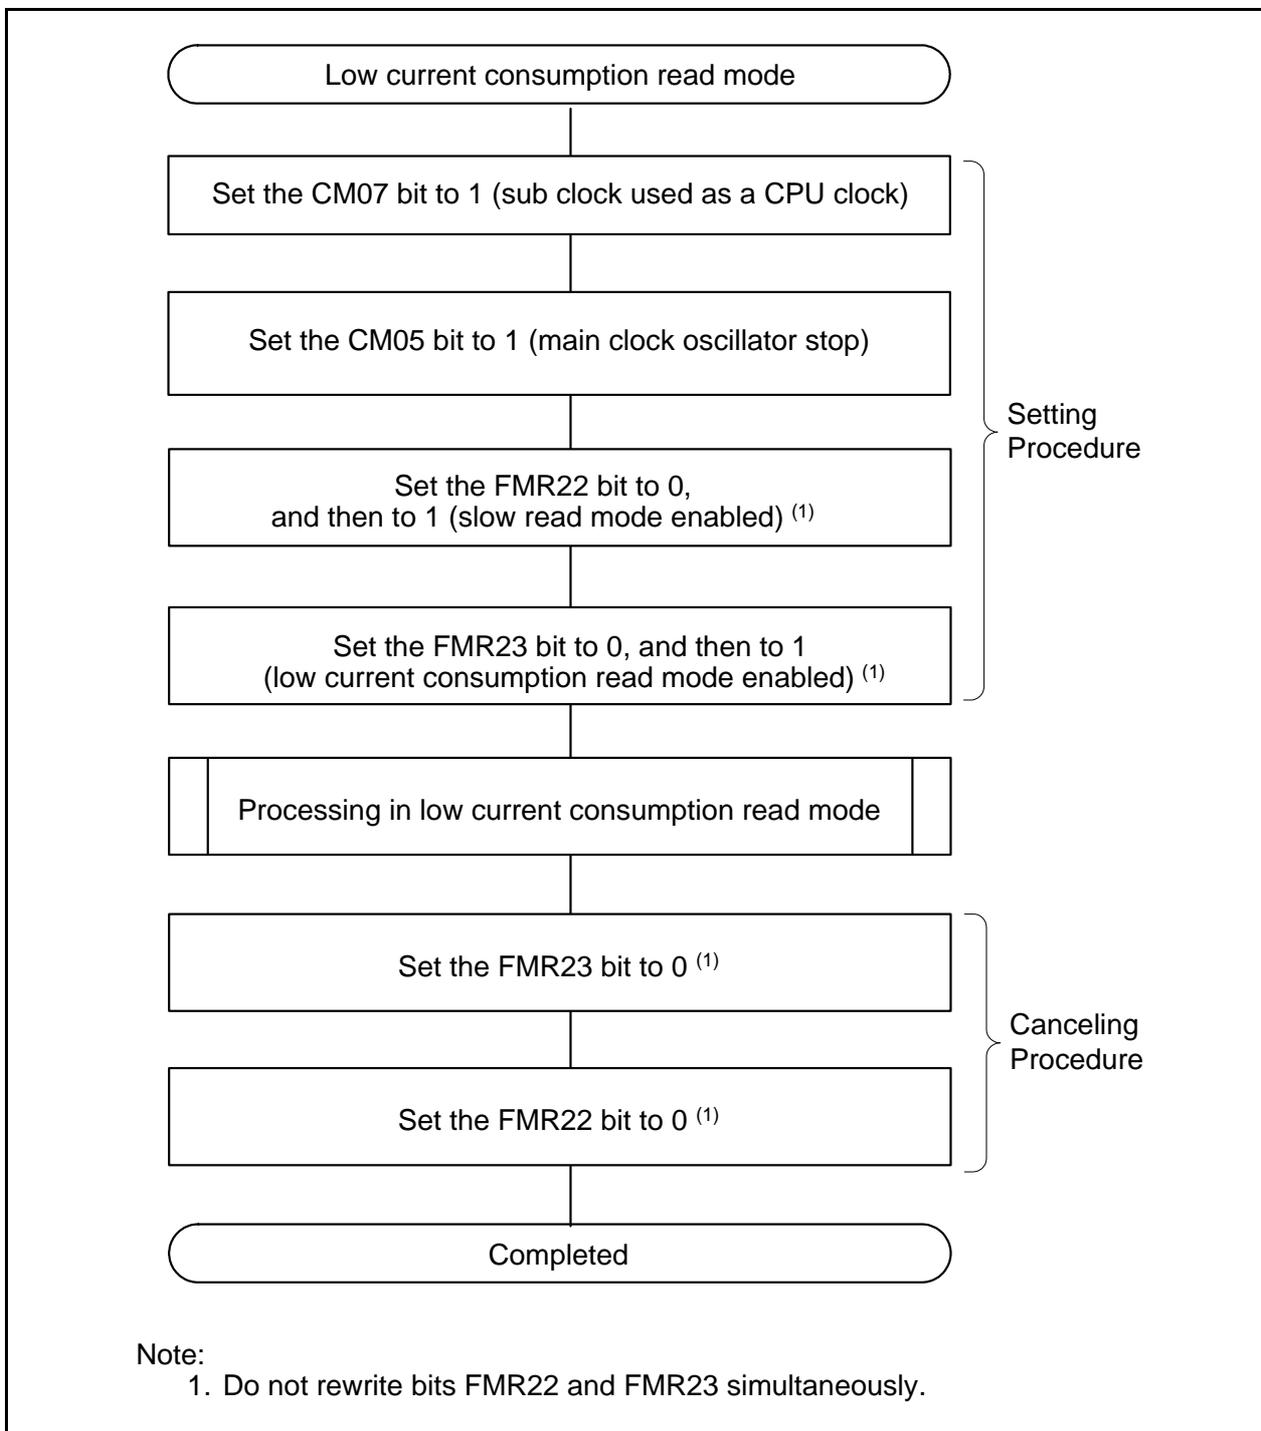

Figure 9.5 Setting and Canceling Low Current Consumption Read Mode
Low current consumption read mode can be used when the CM07 bit in the CM0 register is 1 (sub clock used as CPU clock). Figure 9.5 shows Setting and Canceling Low Current Consumption Read Mode.
- Enter low current consumption read mode through slow read mode (see Figure 9.5 “Setting and Canceling Low Current Consumption Read Mode”).